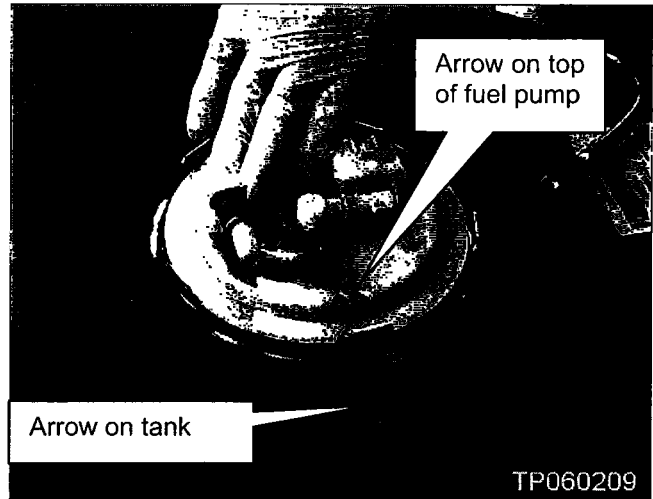

Figure 69
32. Make sure the arrow on the tank and the arrow on the top of the fuel pump are aligned as shown in Figure 69.